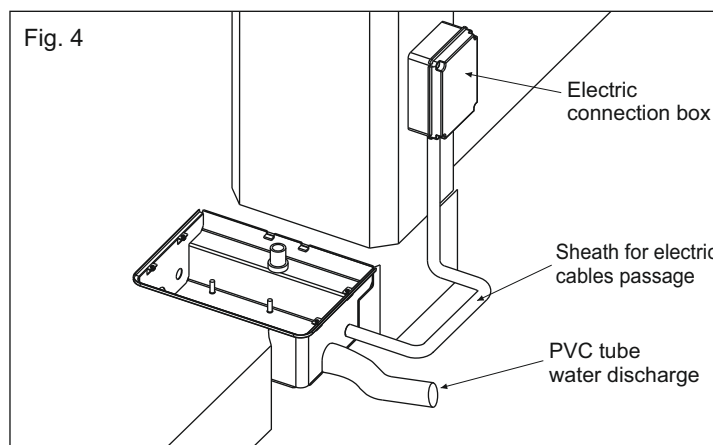

Fig. 4
- a water waste pipe in PVC of about 40 mm of diameter to put inside the provided hole of the box before it is concreted (Fig. 4). **It must be brought until the drain of the sewer line;**
- a sheath for the passage of electrical cables of about 20 mm of diameter which must be brought to the proximity of the electric connection box (Fig. 4).